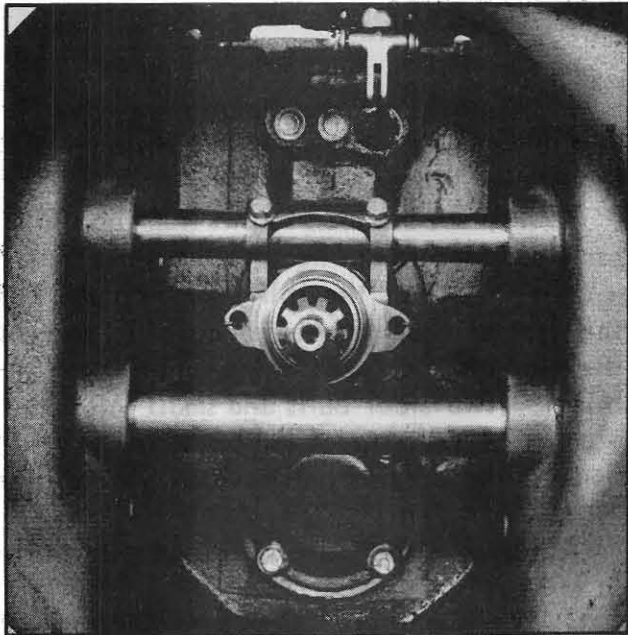

Fig. 226
8. Remove the clutch throwout bearing, the clutch release bearing springs and the clutch release bearing hub, see Fig. 226.